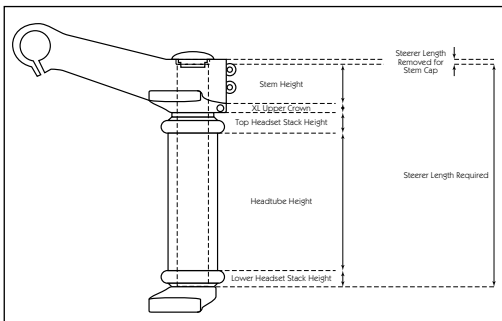

Fig. 3
3. The steerer tube may need cutting to proper length. To cut the steerer tube, removal of the upper tubes are required. This is necessary otherwise the upper tubes will be in the way when cutting the steerer tube to proper length. The steerer tube length is determined by the following parts: XL upper crown steerer clamp length, stem steerer tube clamp length, frame head tube length and top and bottom headset stack height (see Fig. 3). To ease in the assembly, do not install the XL upper crown on to the upper tubes until the steerer has been cut to the proper length and the lower crown has been fastened in the required position. **HINT: MEASURE TWICE AND CUT ONCE!**